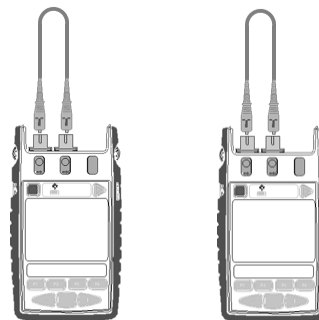

Figure 11. Reference set up for Two Way Calibration Accuracy Test
1. Connect the instruments as shown in Figure 11, using one test lead per instrument: